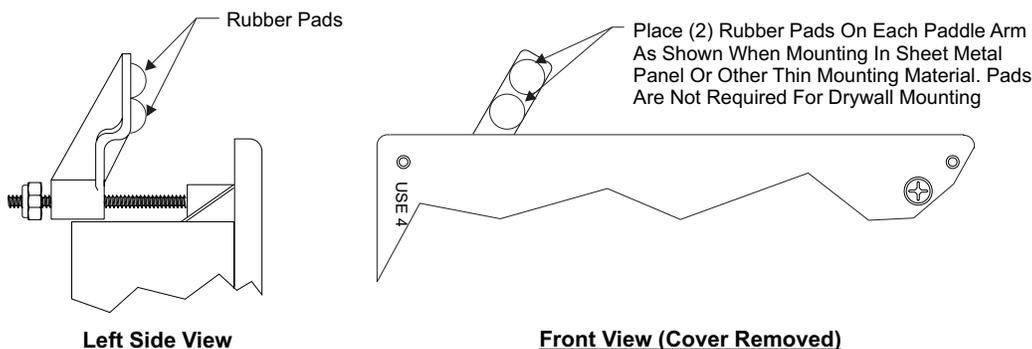

Figure 2: System Manager TS II - Control Panel Mounting Pad Placement Detail (Flush Wall Mount)
The flush wall mount version has integral wingnut paddles that are tightened after installation to grip the drywall and hold the System Manager TS II in place. For mounting in a control panel cover or other thin material, (4) adhesive backed rubber pads are provided to assist in securing the System Manager TS II into the cutout in the panel. These pads are applied to the wingnut paddles to provide a non-slip mounting against the panel's sheet metal surface. See **Figure 2** for pad placement details.